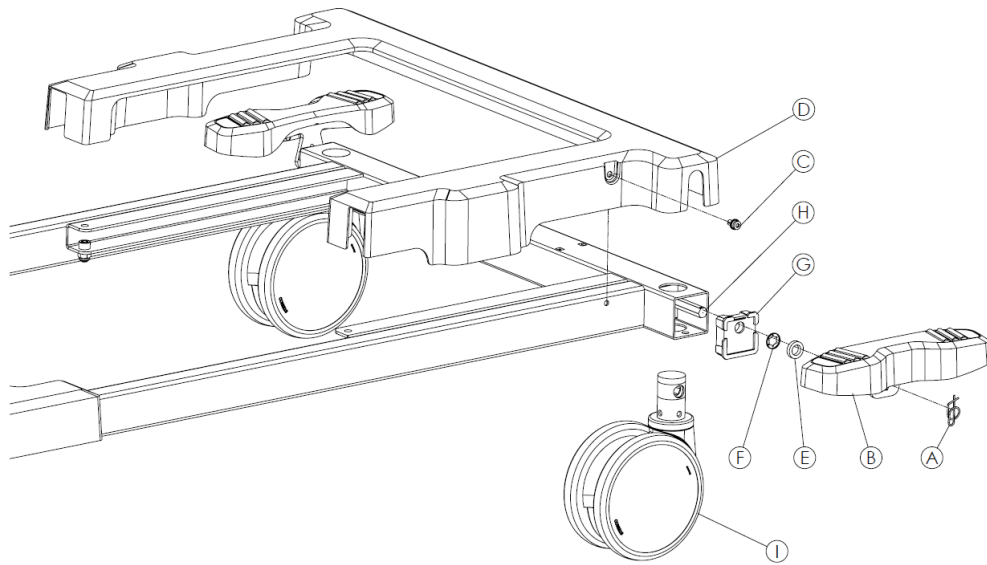

Figure 15 – Steer caster
4. Using a T25 Torx wrench, remove the cover screws (C). Remove the cover (D). Discard the cover screws (Figure 15).
5. Using needle nose pliers, remove the rue ring cotter pin (A) from the hex shaft. Discard the rue ring cotter pin.
6. Pull the brake pedal (B) off the hex shaft. Set aside.
7. Remove the plastic washer (E) that is on the hex shaft. Discard the plastic washer.
8. Using diagonal pliers, cut the starlock retainer (F) that is on the hex shaft. Discard the starlock retainer.
10. Using a large screwdriver, remove the plastic tube cape (G) on the tube. Discard the plastic tube cape.
11. Grasp the opposite brake/steer pedal and pull out about 3.5 in. (80 mm) to remove the steer caster (I). Discard the steer caster.